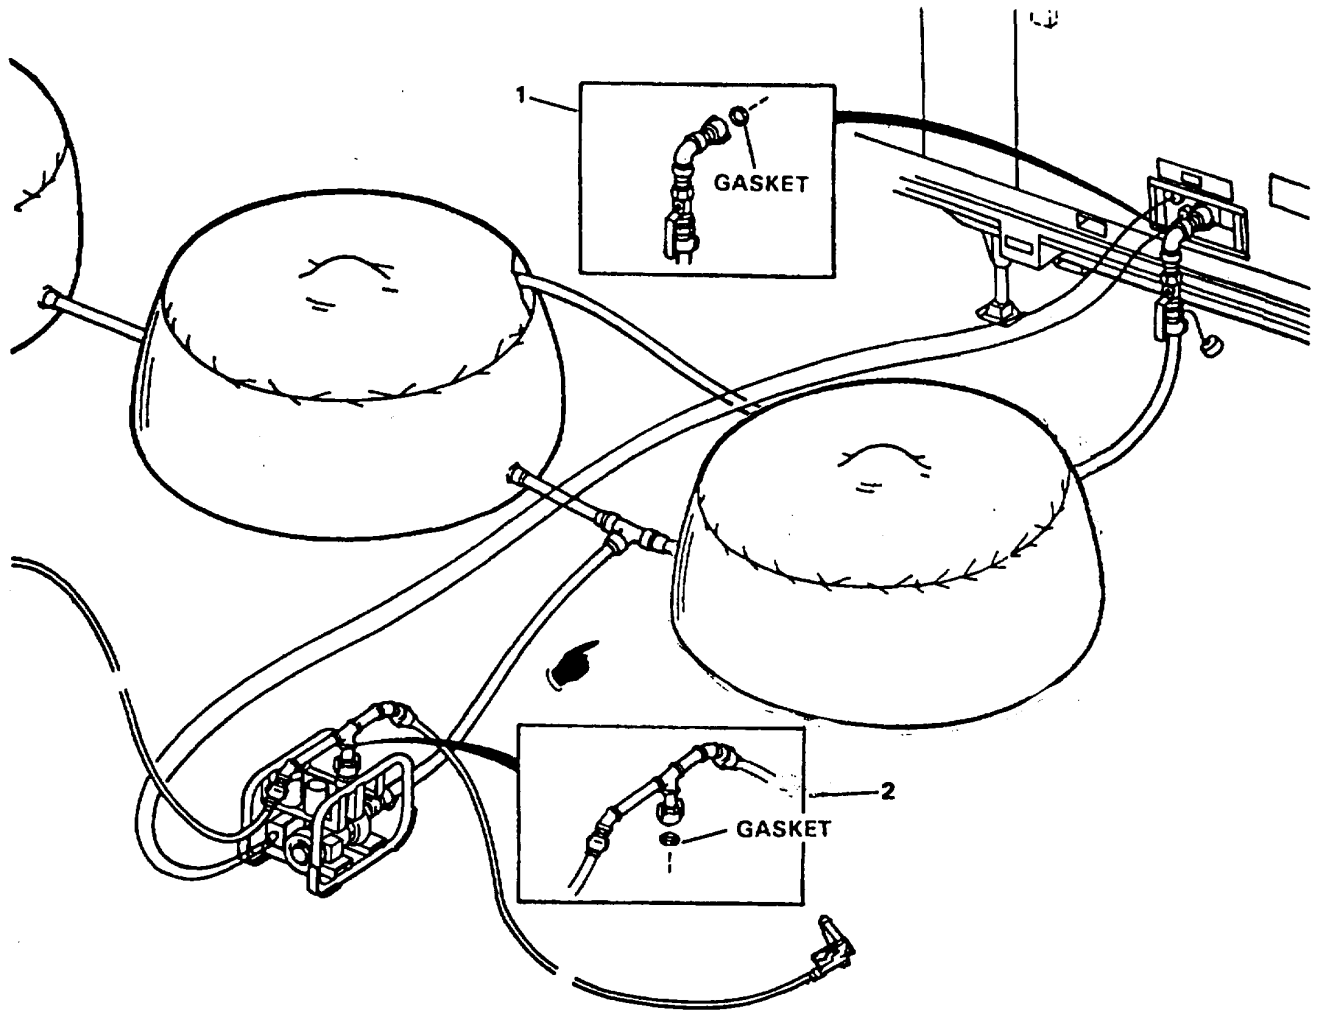

Figure 3-21. Distribution System, Piping, Hoses, Tees, and Adapters
**3-35. REPAIR DISTRIBUTION ADAPTER AND PRODUCT SHUT OFF VALVE (1, Figure 3-21).** This task covers replacement of gaskets as described in paragraph 3-8.
**3-36. REPAIR DISTRIBUTION HOSES, TEES, AND PIPING (2, Figure 3-21).** This task covers replacement of gaskets as described in paragraph 3-8.